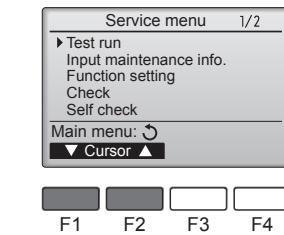

Fig. 7-1
- ① Select "Test run" from the Service menu, and press the [SELECT] button. (Fig.7-1)